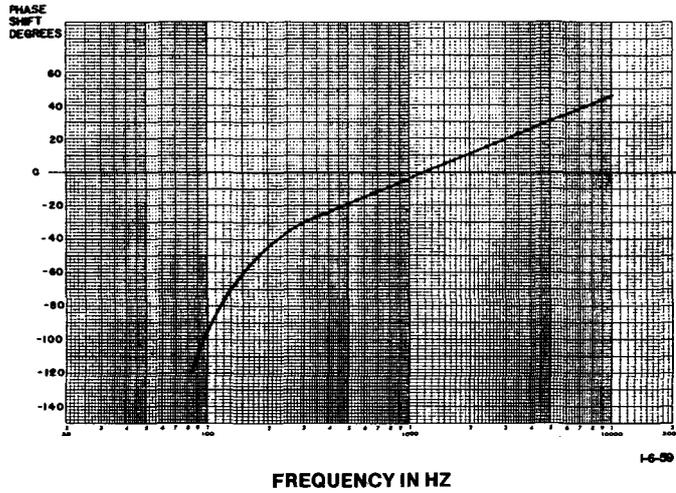
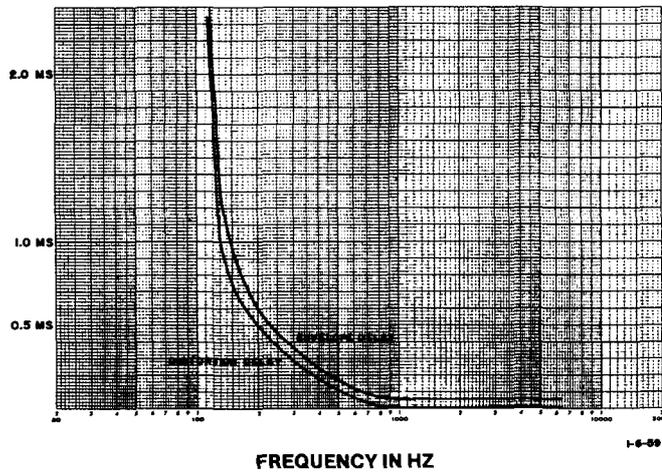

Fig. 7 — 447A & 449A Amplifier Phase Shift
Fig. 8 — 447A & 449A Amplifier Envelope delay & Distortion Delay
3.04 Amplifier phase shift characteristics are shown in Figure 7. Envelope delay and delay distortion characteristics are shown in Figure 8. These items are important if facsimile and data circuits are involved.